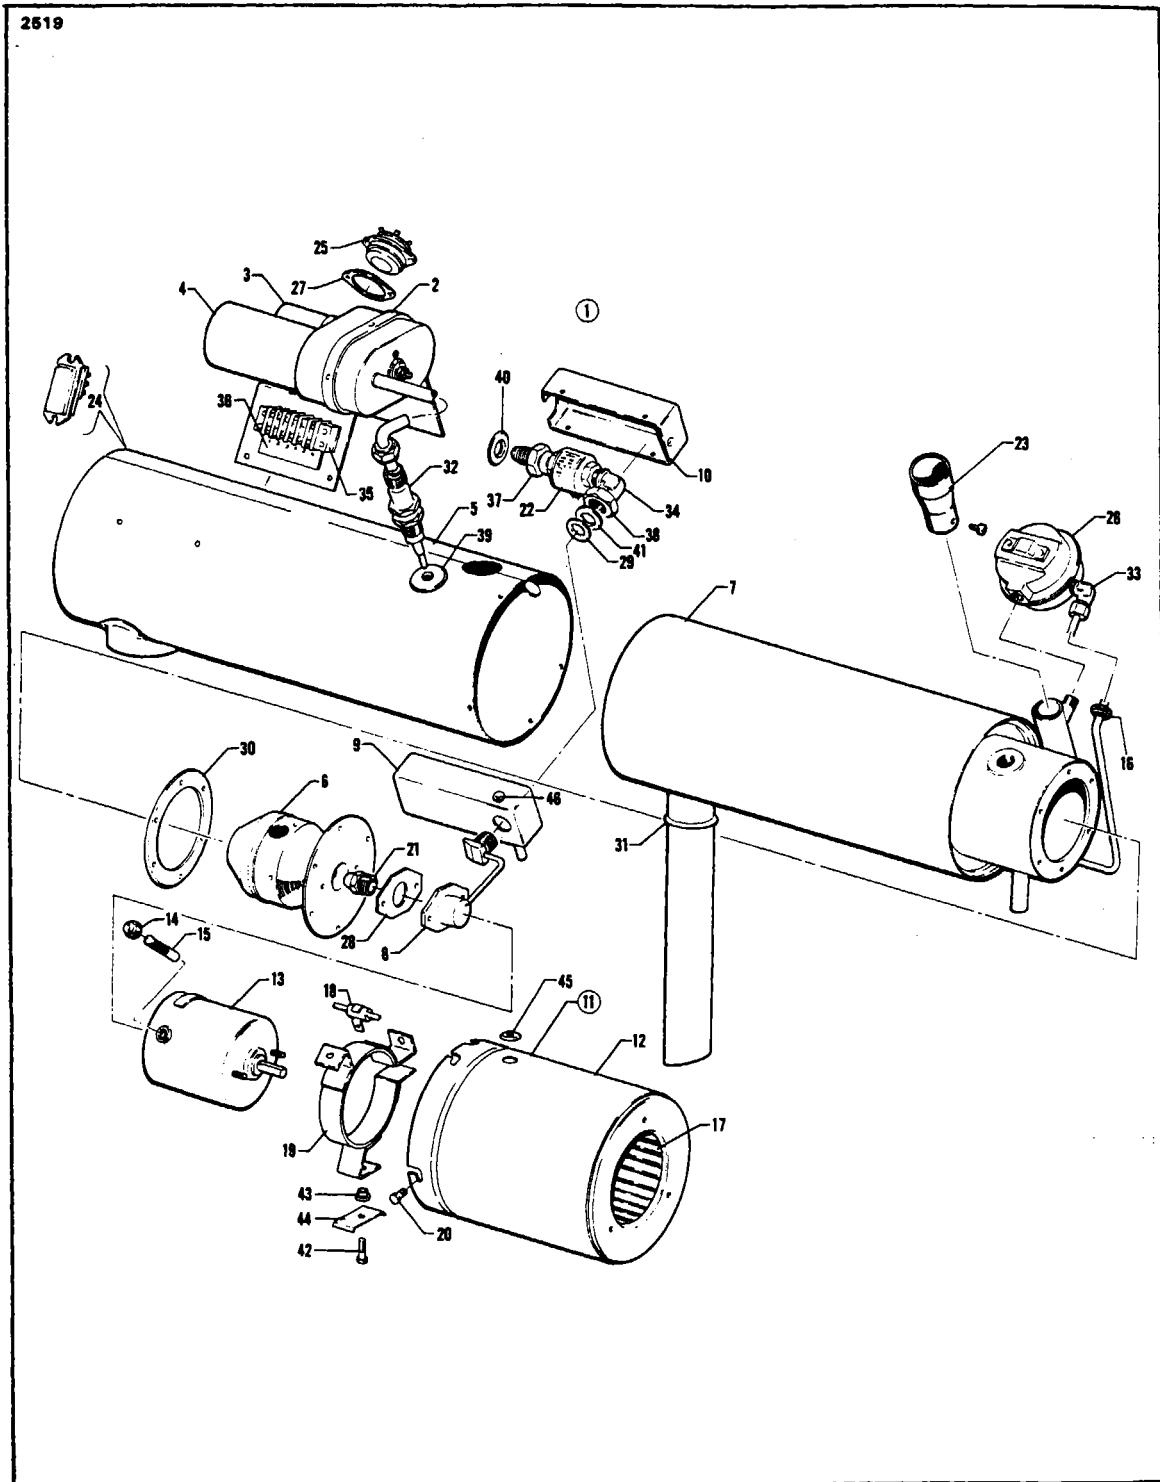

Figure 13-47. Exploded View of Heater Assembly No. 755 257 (28-Volt)
#### 13-175. REASSEMBLY. (Refer to Figure 13-47.)
k. Install a new gasket (30) and combustion head (6) in the combustion tube (7) and secure with the six screws.
l. Insert the fitting on end of nozzle fuel tube through the opening in the jacket (5) and attach the nozzle holder to the combustion head assembly (6) with the two screws. It may be necessary to place a slight bend in the shrouded fuel tube to permit alignment of screw holes. Be sure to use a new gasket (28).
m. Using a new spark plug gasket, install the spark plug (32) and tighten to a torque of 28 foot-pounds. Install the grommet (34) in the jacket around the spark plug.
n. Install the ignition assembly (2) on the jacket assembly (5) with the four screws. Connect the high voltage lead to the spark plug and tighten it to 20 foot-pounds.
o. Attach the overheat limit switch (25) and spacer gaskets (27) to the jacket assembly (5) with two screws. Tighten the screws securely.
p. Attach the cycling switch (24) and bracket to the jacket with the six screws.
q. Place the terminal strip insulation (36) in position on the jacket (5), followed by the terminal strip (36). Secure both parts by installing the two screws.
r. Center the fuel fitting in jacket opening. Position the fuel fitting shroud gasket (29), washer (41) and shroud (9); then install the nut (38) finger tight. Insert a 3/4 inch open-end wrench inside the jacket and hold the fuel-tube fitting while tightening the nut (38) with a 3/4 inch deep socket. Install the fuel solenoid elbow (34) and solenoid (22). Avoid twisting or damaging lead. Install wires through grommet in lower shroud (9).
- s. Rotate the combustion air switch (26) onto the threaded fitting on the combustion air tube and tighten it firmly.
- t. Slide the grommet (16) over the combustion air tube and connect the tube to the elbow fitting (33) on the combustion air pressure switch (26).
- u. Install the wiring harness and connect all wire leads to their respective terminals. (Refer to the wiring diagram, Figure 13-41.) Place the grommet (45, Figure 13-47) in position in the jacket (5); locate the ventilating air blower (11) at the end of the jacket. Thread the quick-disconnect on the motor lead through the grommet and connect it to the mating connector on the wiring harness.
- v. Place the blower housing in position on the jacket assembly (5) and secure it by installing the four screws (20), if removed at disassembly. This operation is easier if the screws (20) are started into their threads and the blower housing rotated into place, allowing the screws to enter the notched openings in edge of blower housing. Tighten all screws securely.
- w. Install the adapter (23) with the screw.
- x. After heater is installed in the aircraft and the fuel line is connected, install the upper fuel shroud box (10) with the screws. Ascertain grommet (40) is installed.
CALLOUTS FOR FIGURE 13-47